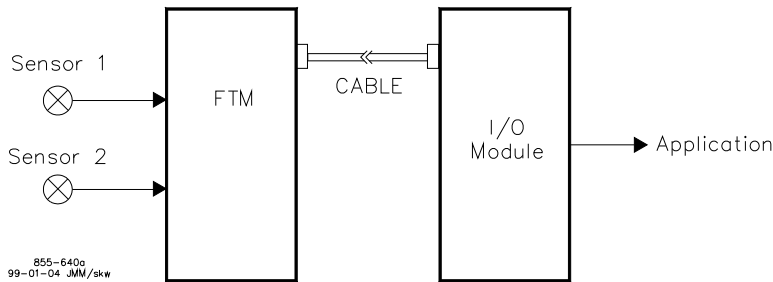

Figure 2-9—Redundant Sensors
- If the BACKUP syncs in correctly, the backup fault indication in the GAP will go FALSE (see Figure 2-9).